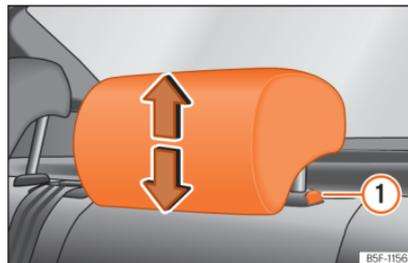

Fig. 121 Rear headrest: headrest adjustment.
button »» Fig. 121 ① to lower them »» ⚠ in Introduction on page 125.